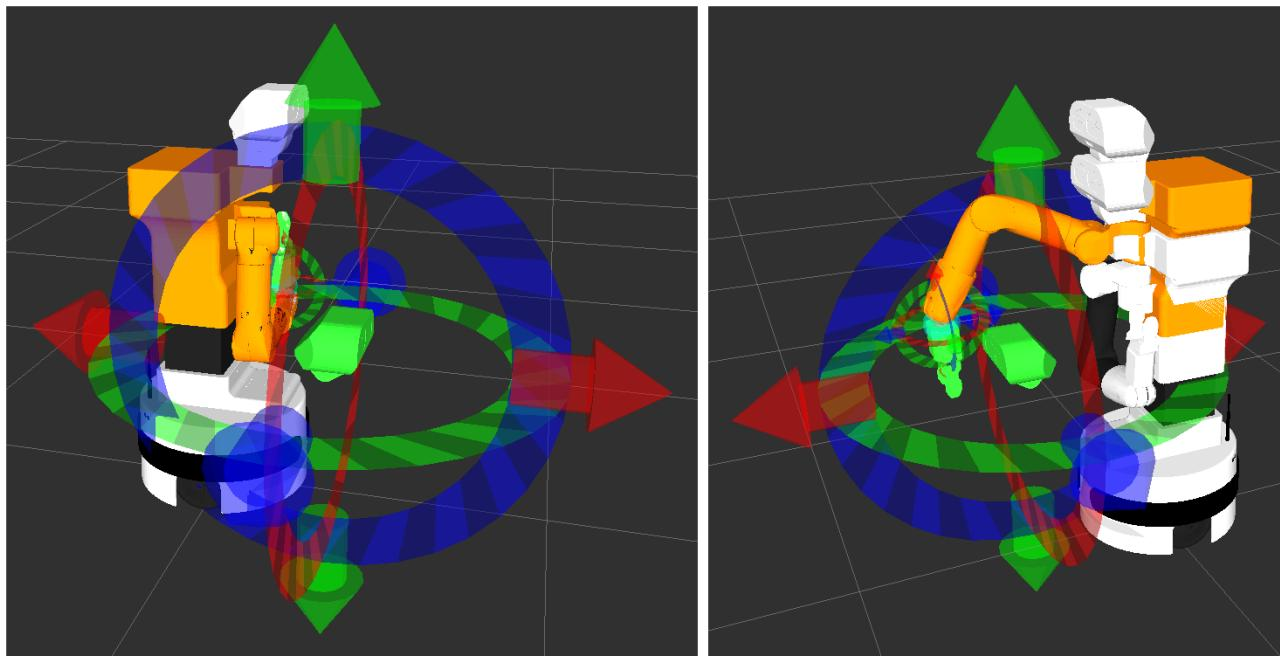

Figure 132: Example with an object in the scene. Initial pose (left) and goal pose (right).
3. Move the end-effector using the “*flying end-effector*” to a goal position like the one shown on the right of figure 132. Make sure that no body part is in red, which would mean that *MoveIt!* detected a collision in the goal position. Goals which result in a collision state will not be planned at all by *MoveIt!*.